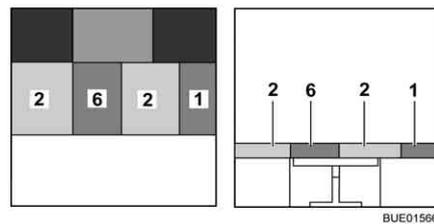

Fig. 106 After conversion
- Place the additional cushion (Fig. 106,6) on the table.
- Slide the right-hand seat cushion (Fig. 106,2) against the additional cushion.
- Insert a back cushion (Fig. 106,1) between the seat cushion (Fig. 106,2) and the side wall.